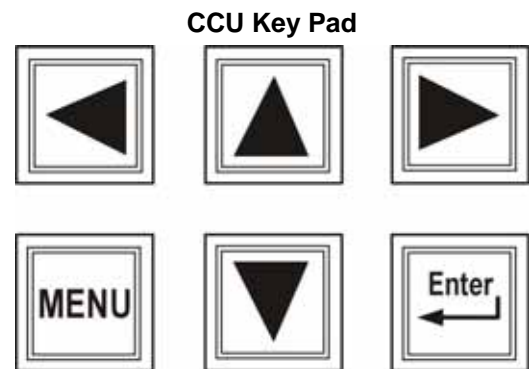

Figure 5-12
3. Press the <MENU> key on the CCU for accessing password menu. [See Figure 5-12.]